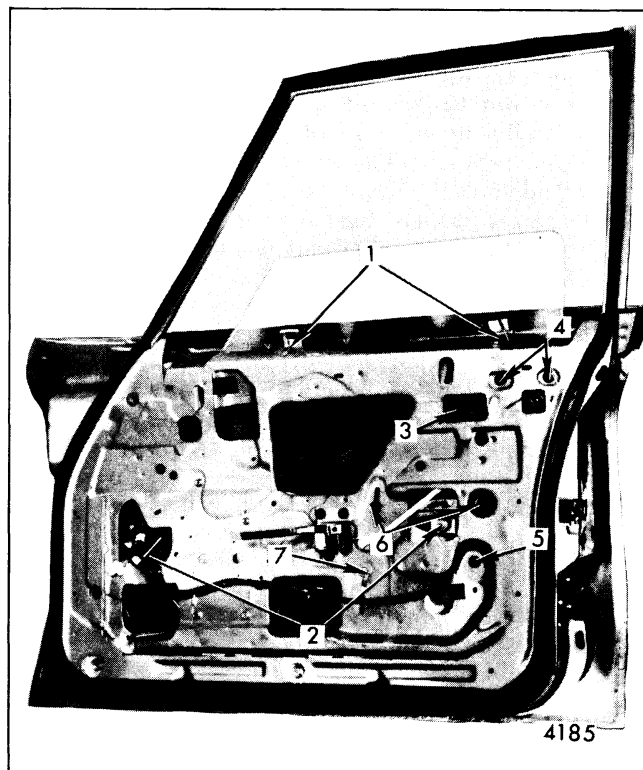

Fig. 5-89-Window Removal and Adjustment - "B" Closed Styles
1. WINDOW NOT PARALLEL ALONG UPPER EDGE WITH DOOR UPPER FRAME - A rotated window condition (glass cocked in opening) can be corrected by loosening door window inner panel cam attaching bolts ("6", Fig. 5-89) and raising or lowering front edge of glass in relation to rear edge of glass, as required, to parallel upper edge of glass with door upper frame. Torque inner panel cam attaching bolts to 60 to 90 inch pounds.
2. **WINDOW TOO HIGH OR TOO LOW, WHEN IN A DOWN POSITION, IN RELATION TO THE BELTLINE** - To adjust window down-travel, loosen window down-travel bumper support ("7", Fig. 5-89) and raise or lower window to desired full-down glass height. Then, position bumper support against lower edge of glass and tighten attaching bolts to 60 to 90 inch pounds.
3. **WINDOW MECHANISM BINDS WHEN OPERATING** - The rear guide is adjustable in and out ("3", Fig. 5-89) and fore and aft ("4", Fig. 5-89) to relieve a binding door window assembly. In addition, excessive outboard adjustment of the belt trim support retainers ("1", Fig. 5-89) may result in a binding window. The belt trim support retainers should be adjusted outboard until they lightly contact the door window.
2. Loosen window belt trim support retainers ("1", Fig. 5-89).
3. Operate window to a three-quarter-down position and remove window lower sash channel cam to glass attaching stud nuts ("2", Fig. 5-89). Tilt front edge of glass downward and remove window inboard of door upper frame.